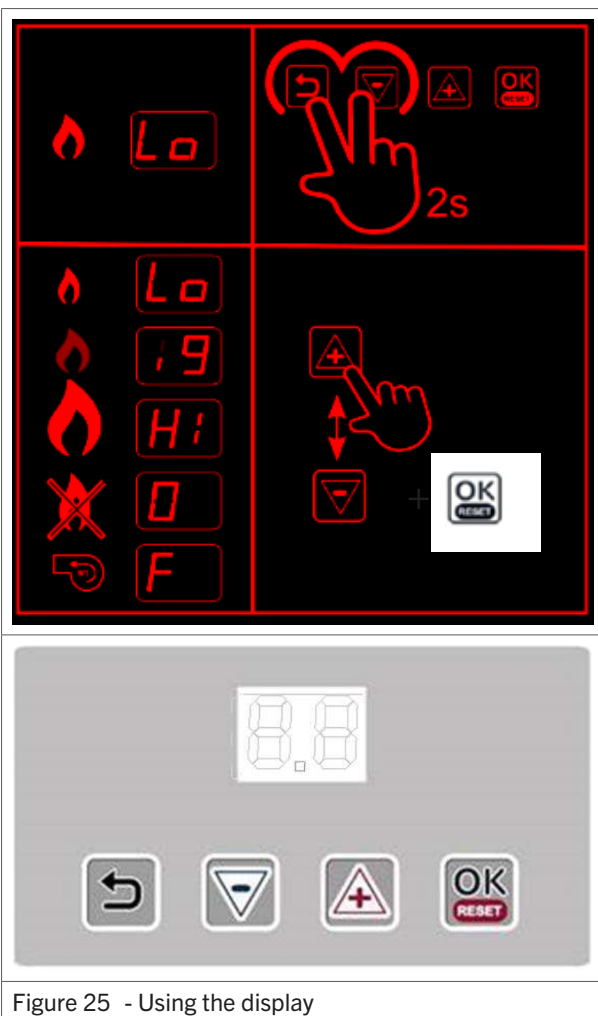

Figure 25 - Using the display
1. Press and hold the **Return** and (–) button for a few seconds (figure 25). The display will alternate between Lo and St. This means the heater will start up in Low fire.
2. Press the (+) and (–) buttons to toggle between Low and High fire (figure 25).